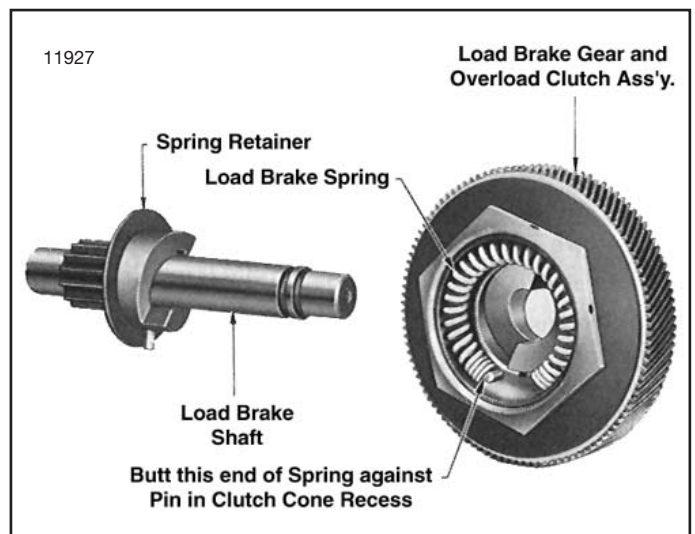

Figure 7-24. Load Brake Gear and Overload Clutch Assembly Removed from Load Brake Shaft Showing Brake Spring Installed in Clutch Cone
(3) Remove load brake gear and overload clutch assembly from output pinion shaft. Pull the spring from its recess in clutch cone (fig. 7-24) but do not further disassemble gear and clutch assembly. See "NOTE" below.
**NOTE:** Disassembly of the load brake gear and overload clutch assembly (fig. 7-24) is not recommended. Clutch pressure is preset by the factory at assembly to provide the correct torque to allow the clutch to refuse loads within a specified range (150% of rated load to 200% rated load). It is suggested whenever there is a need to repair or readjust the gear and clutch assembly that it be sent to an authorized **Yale** Hoist Repair Station where adequate tools, fixtures and appropriate test equipment is available.
(1) Before assembly, all parts should be cleaned and inspected to determine their serviceability. Replace parts that are worn or damaged.
(2) Reassemble load brake parts following a reverse procedure of the disassembly steps listed above, observing the assembly steps (3) through (6) below.
(3) Before installing spring in its recess in center of clutch cone (fig. 7-24) apply a good grade of ball bearing grease to inside of recess. Spring must be positioned exactly as illustrated, abutted against pin.